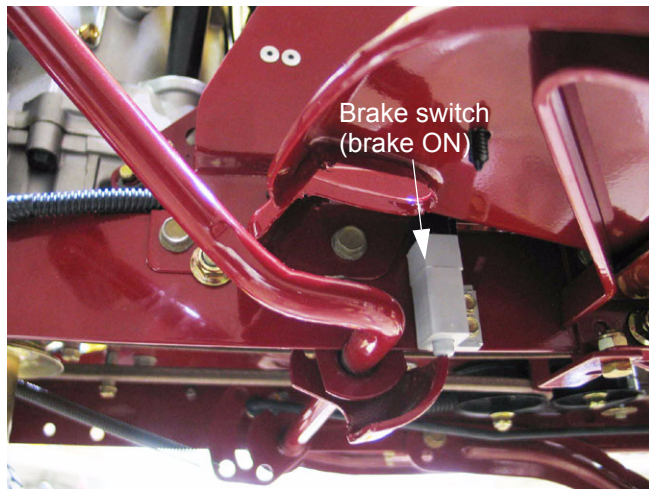

Figure 17.26
17.26. The **Brake Switch** is mounted to the left frame channel, just beneath the running board and immediately behind the clutch / brake pedal. See Figure 17.26.